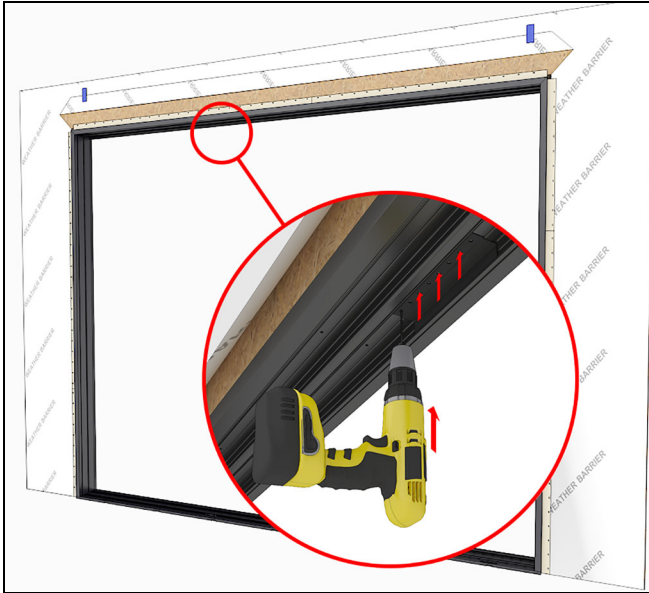

Figure 130
2. Pre-drill a 3/16" hole through the head jamb using the bracket as a template. Pre-drill at each outside hole of the bracket, and at least once more in the middle of the bracket. See Figure 130.